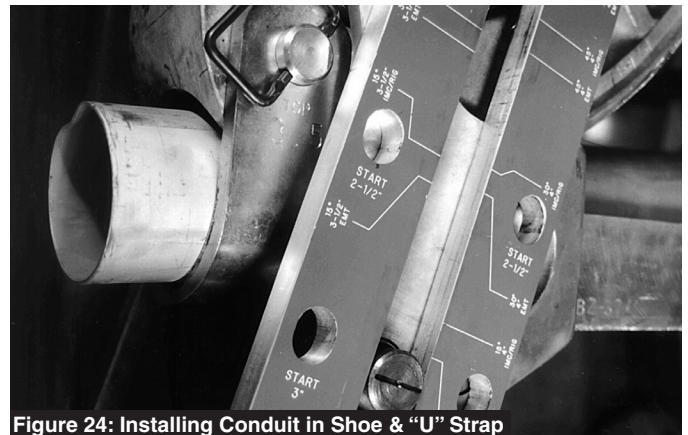

Figure 24: Installing Conduit in Shoe & “U” Strap
3. Slide conduit into the shoe groove and through the “U” strap. At least 2-3 inches of conduit must extend beyond the “U” strap to avoid deforming the end of the conduit. Figure 24.